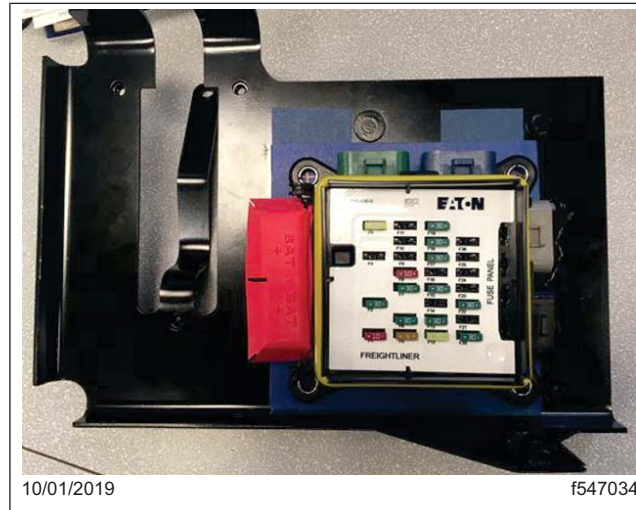

Fig. 5, Mounting the PDM
11. Mount the severe-duty PDM on the fender-mounted bracket using the cable eye terminal studs to the forward-facing side of the fender-mounted bracket. See Fig. 5. Secure it with four M8 bolts (23-13345-020) and four M8 nuts (N913023 008003), and tighten to 11 lbf-ft (15 N-m). The four bolts should face upward to